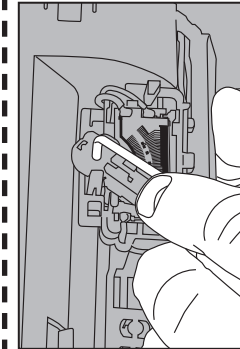

Figure 2
1. Insert the float arm into the pivot hole of the fuel level sender (Figure 2).